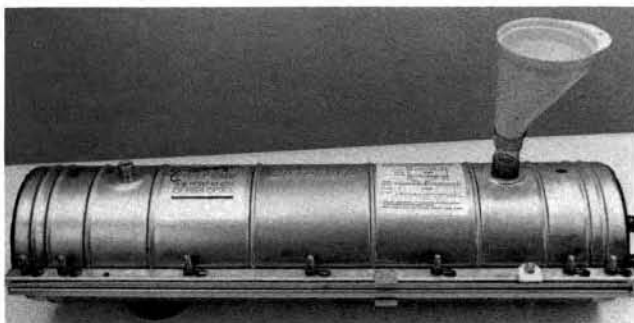

Figure 52
27.03 Elevate the end of the case with the air flange approximately one inch. Figure 52.
27.04 Install the funnel and plastic coupler over the pouring flange. Figure 52.